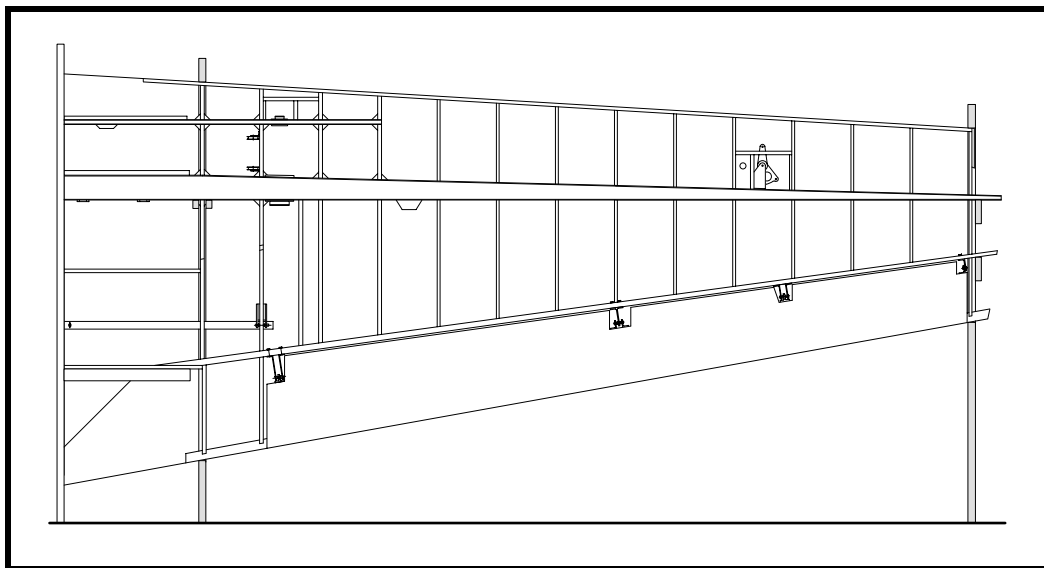

Figure 18
- ☐ Install the aileron/flap assembly on the aft wing spar as shown in Figure 18. All hinges must be installed.